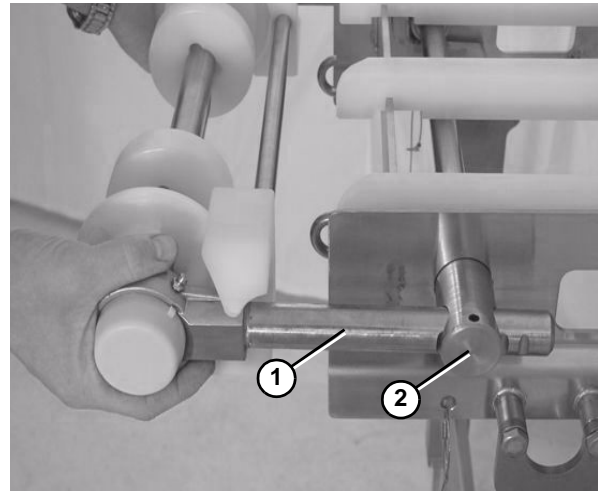

Figure 60
2. Slide the idler tail assembly (**Figure 60, item 1**) out of the take up blocks (**Figure 60, item 2**).